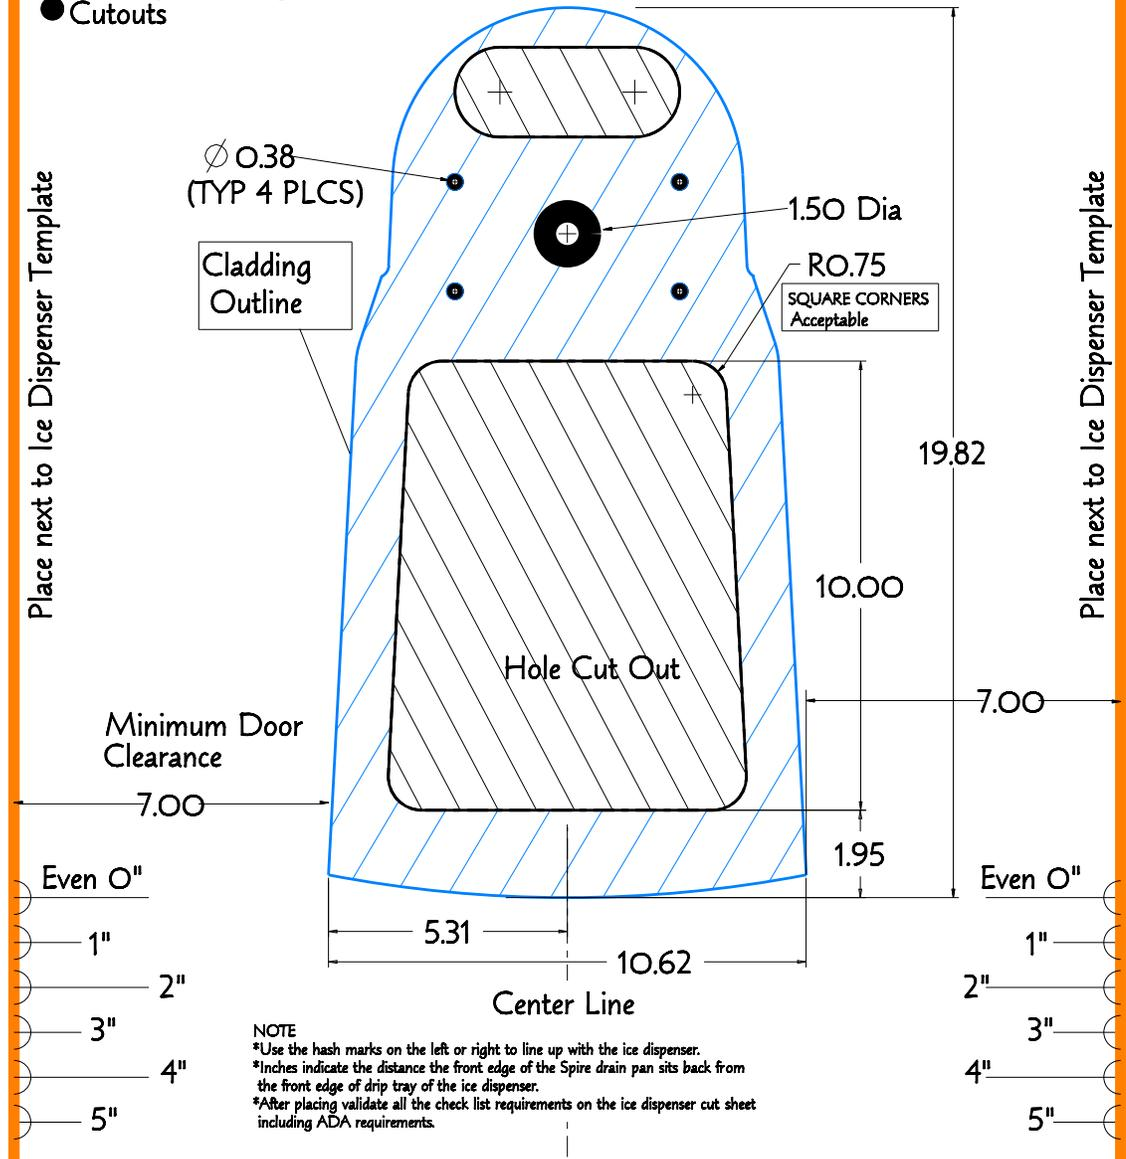

Figure 2 - Pepsi Spire 2.0 Foot Print Template
Before installation, validate the site is Pepsi Approved. This includes a cabinet capable of holding the load and no obstructions under the counter that would not allow the under-counter installation kit and E-BOX assembly to be installed properly. (Refer to Figure 2) The site may also contain walls and features in the cabinet that do not allow the python and recirculation system installation.
- Template for Counter-top Installation: See "Figure 2" on page 11.
5. Route power and communication wires through the 1-1/2" diameter hole between the 4 mounting holes as shown on the template. See Figure 2.